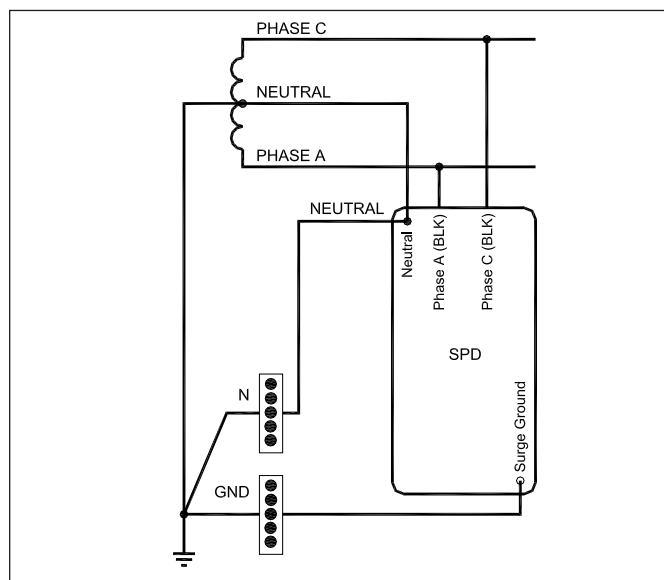

Figure 9. Split Phase Units
5. Select the correct wiring diagram for the SPD you are installing. You must refer to this diagram while wiring the SPD. See Figures 9 - 14. SPD Series Type 1 and Type 2 units do not require over current protection devices, fuses or circuit breakers to operate correctly. All local and national electric codes must be followed during installation and these codes may require protection of the conductors leading to the SPD unit.